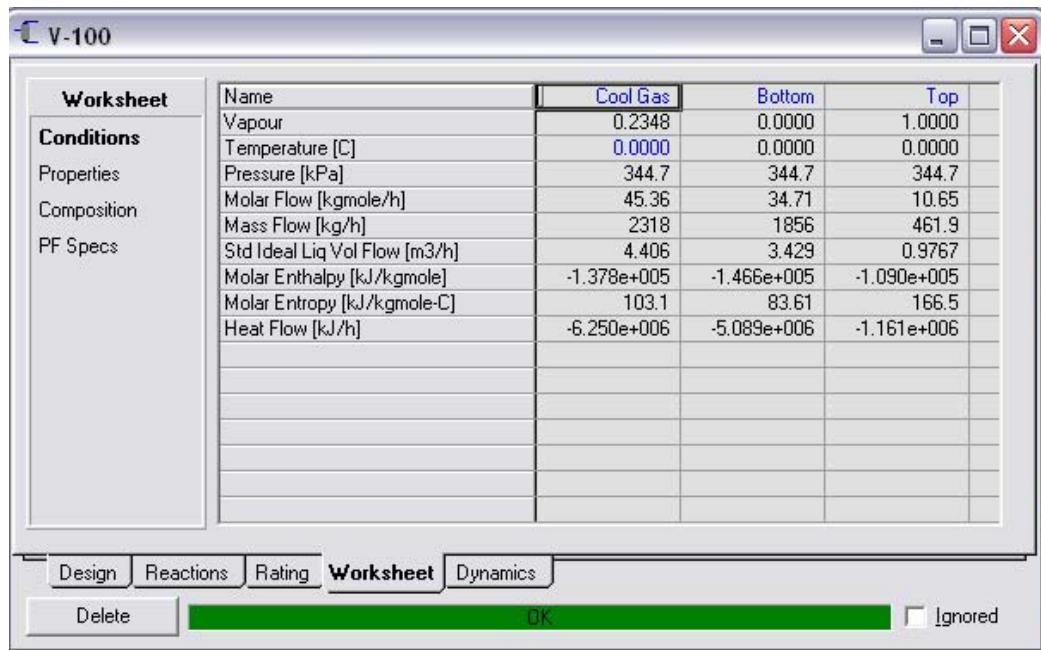
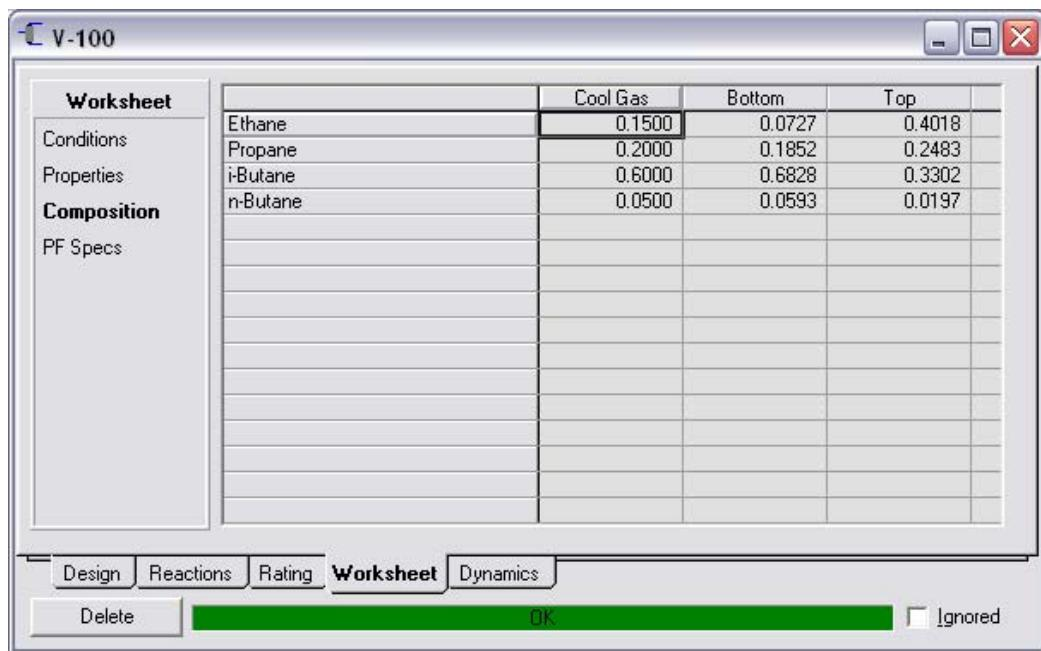

Figure 7-7
Figure 7-8
3. Go to the **Worksheet** tab to preview the result as shown in the Figure 7-7 and Figure 7-8.